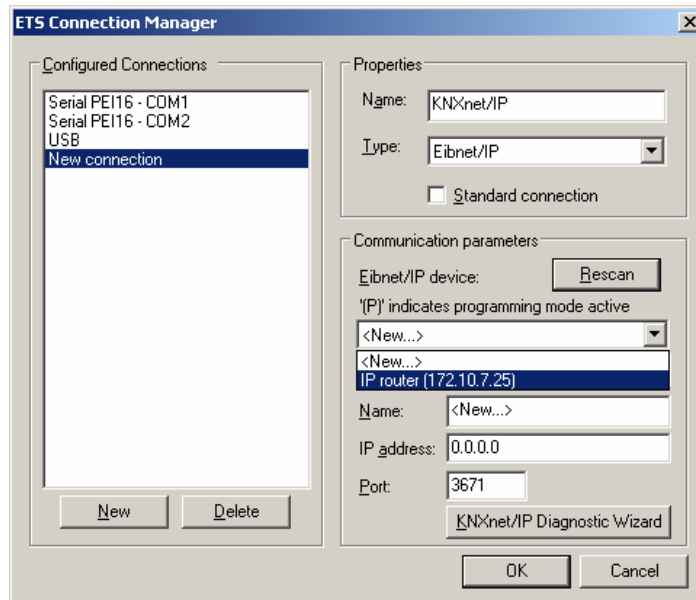

Fig. 7: List of devices in communication parameters with all IP routers found
4. The "Eibnet/IP Device" list contains all IP routers found in the IP network (cf. Fig. 7). The name assigned in the ETS (default is "IP router") and the IP address of the IP router are indicated. The letter (P) behind these data signals that a programming mode is activated. By this means, it is possible to identify individual devices even in systems with several routers. The IP router which is to work in the configured connection as a "data interface" must be selected in the device list. By clicking on the "Rescan" button, the ETS 3 starts a new scanning cycle to search for IP routers in the IP network.